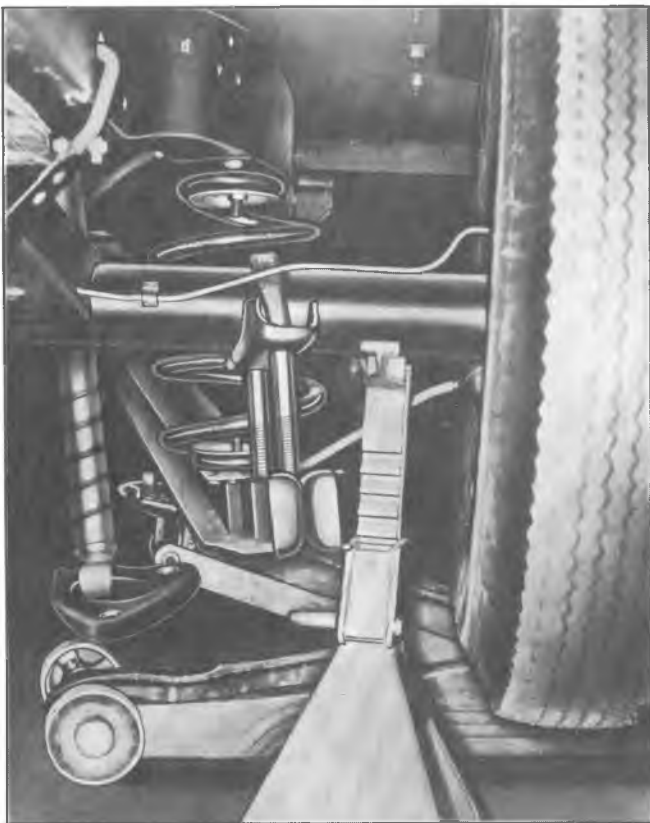

Fig. 6—Removing Control Arm Spring Clamp Bolt (Series C-P10-C20)
4. Remove "U" bolt nuts and separate shock absorber bracket from control arm. Separate control arm from "U" bolts and lower the rear of the arm (fig. 6).